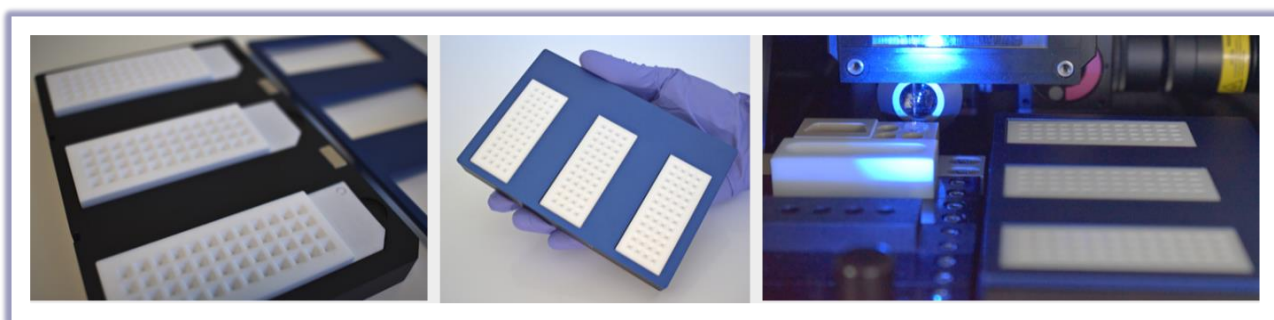

Figure 8. proteoCHIP LF inside the cellenONE holder.
- Place the proteoCHIP(s)\_LF\_48 inside the cellenONE holder (ref. C-PLF-48-CHB) (Figure 8).
Once the proteoCHiPs are loaded in the cellenONE as seen in Figure 8, check that you selected the right probe, run and target in the **Run** window (Figure 12.1). Start the run (Figure 12.2), name the experiment (Figure 12.3) and click on **OK** (Figure 12.4). Select the number of proteoCHiPs that you want to dispense (Figure 12.5) and click on **OK** button (Figure 12.6).